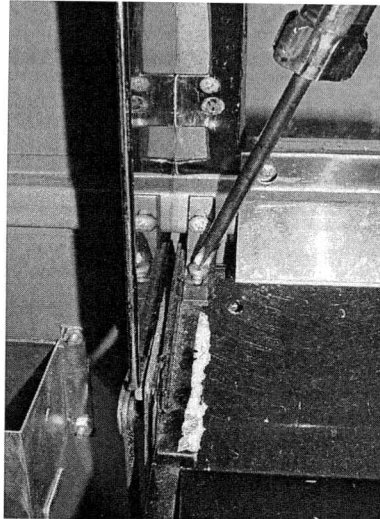

Figure 3.
3. Locate the two L-shaped brackets on both sides of the bin on the door. Unscrew the bottom screw completely with Philips screw driver. Next, loosen the top screw slightly to allow the bracket to move around freely. See Figure 3.